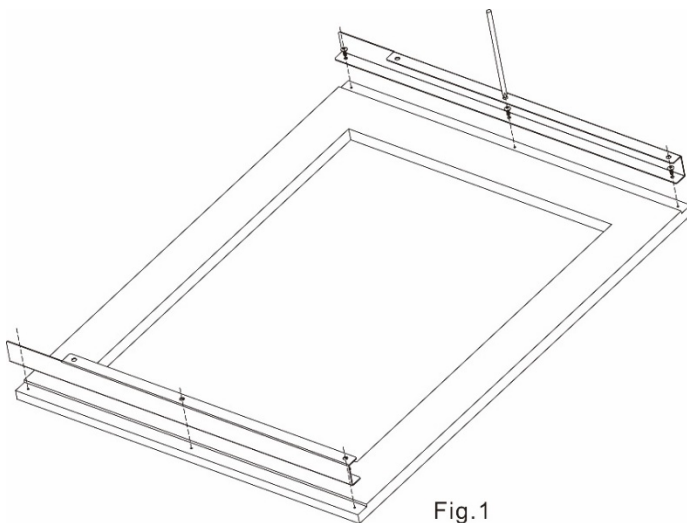

Fig.1
1. Lay the wooden panel (3) on a flat surface.
3. Attach the bracket to the wooden panel by using Phillips self-tapping screws. (Fig.1)